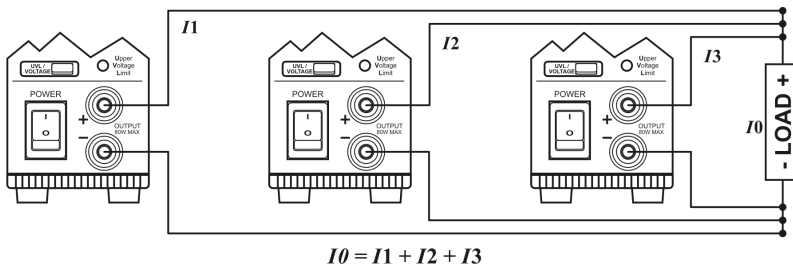

Figure 1.5-3 Load Connections
6. Using either the output terminals on the front or back of the units, connect the output cables in parallel to the load. See Figure 1.5-3.